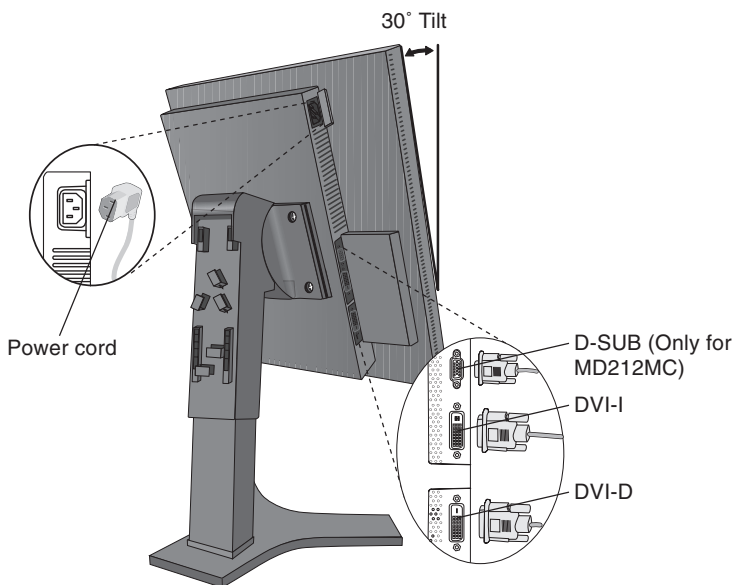

Figure C.1
4. Place hands on each side of the monitor to tilt the LCD panel to a 30° angle and lift up to the highest position (**Figure C.1**).
5. Connect all cables to the appropriate connectors (**Figure C.1**).